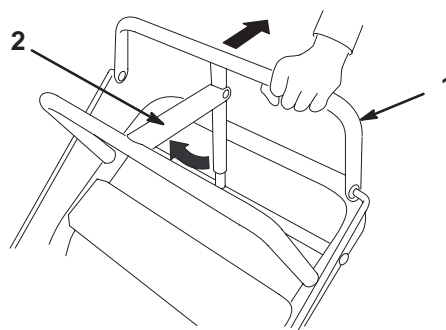

Figure 34
2. Set the parking brake (Fig. 34).